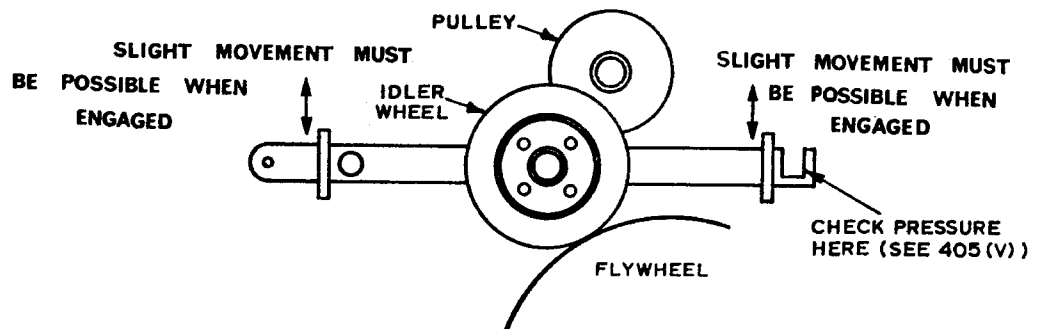

Fig. 401 Idler and Idler Arm Assembly
- (ii) Check that on turning to *Pause* at each setting of the speed change switch SW104, a slight movement of the idler arm is possible (Fig. 401).
- (v) Check that the pressure applied by the start lever spring to the idler arm is 200 grams (see Fig. 401).